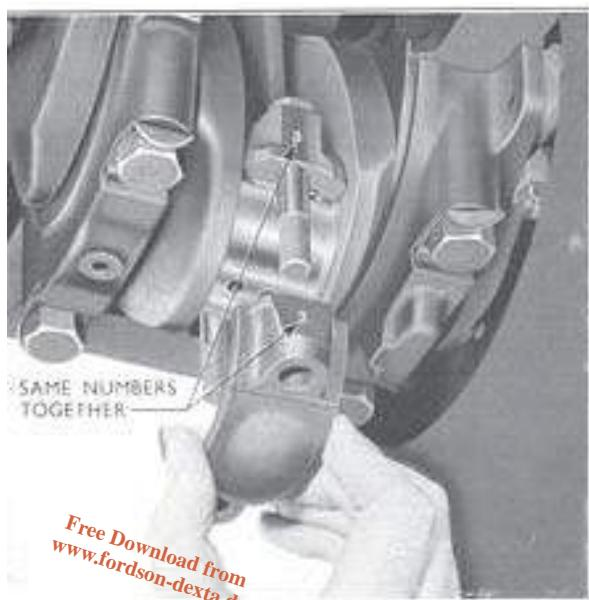

Fig. 22
The numbers are stamped on the left-hand side of the big end (opposite side to camshaft) so that a cap replaced with the numbers together must be in the original position (see Fig. 22). Never transpose the cap to the connecting rod incorrectly otherwise a true bearing surface cannot be assured.
10. Locate the lower half of the big end bearing liner in the cap with the tongue registering in the machined recess, and refit the cap with the stamped numbers together (see Fig. 22), and the liner smeared freely with clean oil.